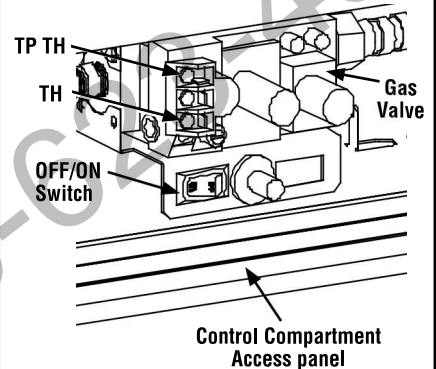

Figure 46
Ground supply lead must be connected to the wire attached to the green ground screw located on the outlet box. See *Figures 46 & 47*. Failure to do so will result in a potential safety hazard. The appliance must be electrically grounded in accordance with local codes or, in the absence of local codes, the National Electrical Code, ANSI/NFPA 70-latest edition. (In Canada, the current CSA C22-1 Canadian Electrical Code).
4. Wire and install the outlet receptacle to junction box, then install into the chosen corner of the control compartment as shown in *Figures 46, 47 and 49*.
Important Note: The gas valve OFF/ON switch is shown in **Figure 46** on **Page 26**. It is integral with the gas valve and should be set to the **ON** position.